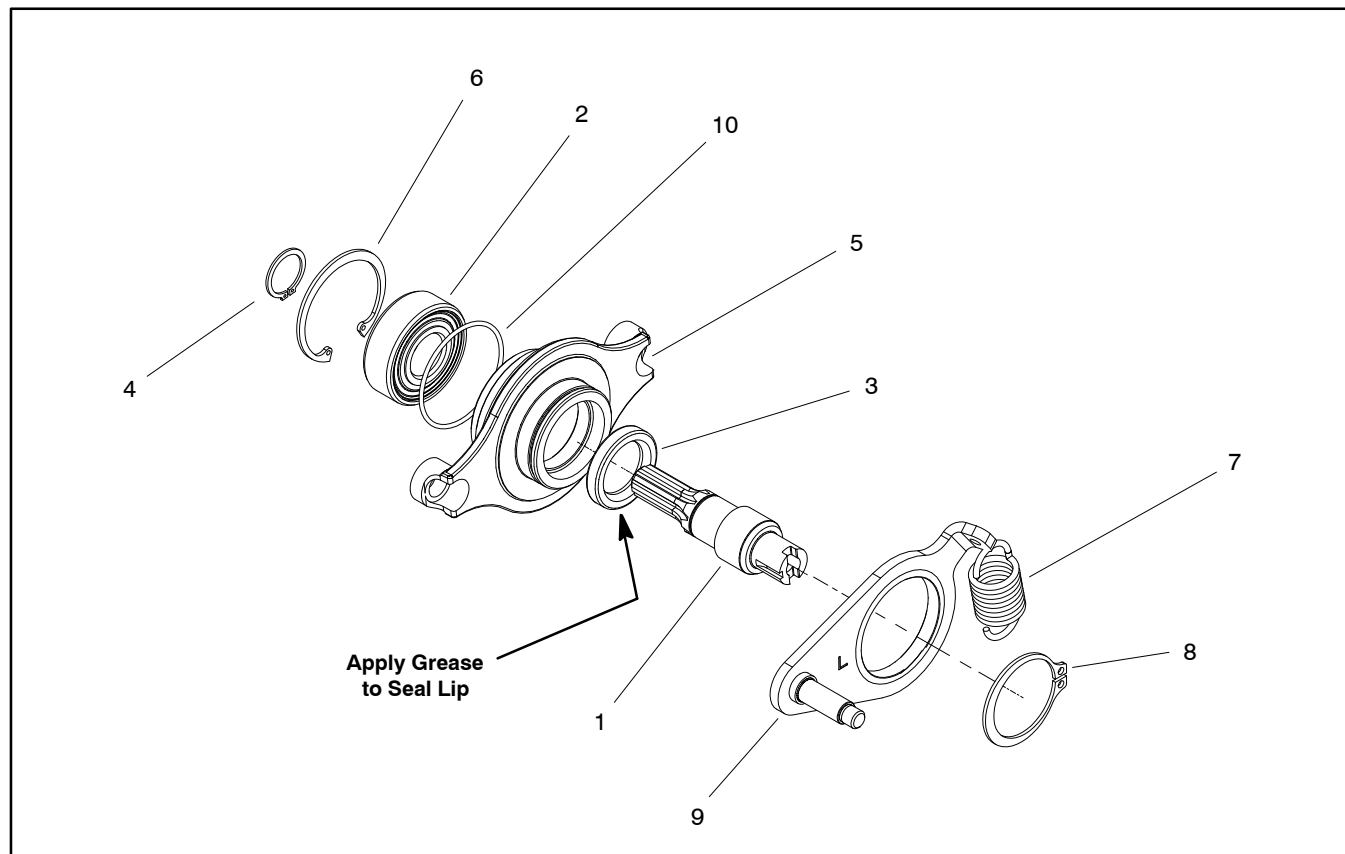

Figure 15
**NOTE:** The groomer reel drive is located on the opposite side of the cutting unit from the cutting reel hydraulic motor. Figure 15 shows components used when the groomer reel drive is on the left side of the cutting unit.
### Disassembly (Fig. 15)
### Assembly (Fig. 15)